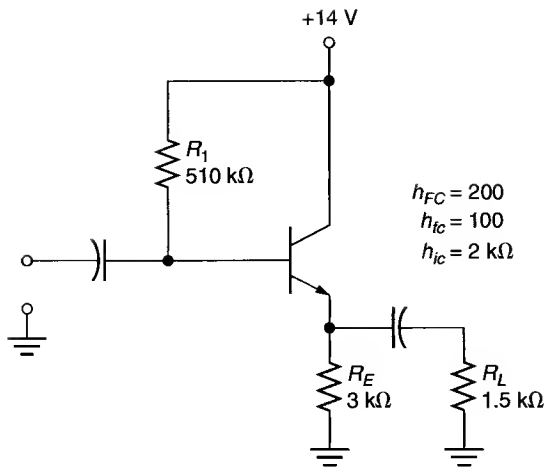

FIGURE 10.24
13. Determine the value of Z_{in} for the circuit shown in Figure 10.24.